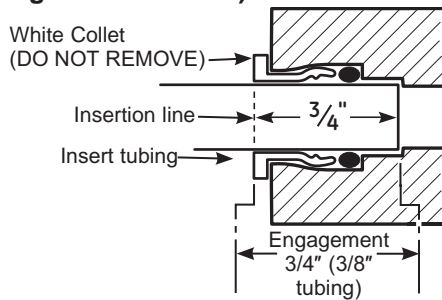

Fig. 7
3. Push the tubing firmly into each fitting on the manifold until the line is flush with the fitting collar. (If the tubing is removed, re-cut the end, measure, mark and re-insert). Tubing must be fully inserted to avoid leaks (Fig. 7). **(To remove tubing, depress and hold white collet; pull tubing out to remove.)**